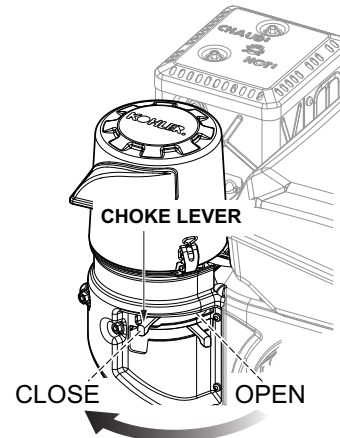

Figure 20. Choke Lever
3. To start a cold engine, move the choke lever (Figure 20) to the **CLOSED** position.